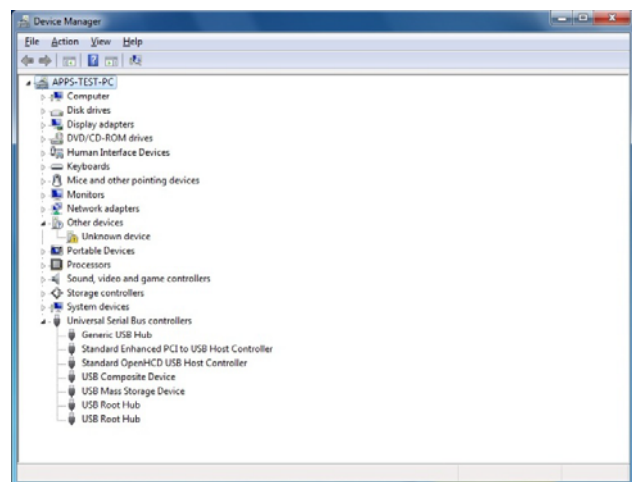

Figure 5. Device Manager
1. Find the new unknown device (the evaluation board) in **Device Manager** and double-click it to open the properties. The device should be **Unknown device**, under **Other devices** (see Figure 5).